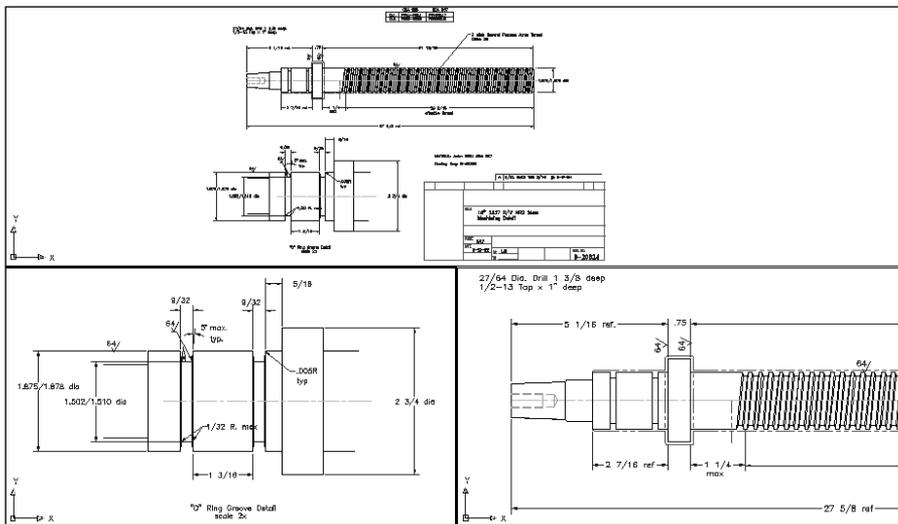

Figure 8-16: The three tiled viewports now display three different views.
7. Click the top viewport. Choose Zoom Extents from the Zoom flyout of the Standard toolbar. Figure 8-16 shows the results.